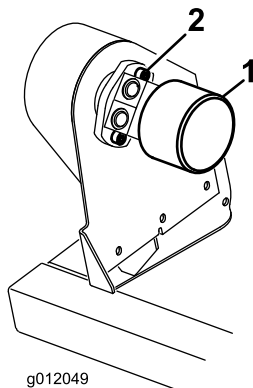

Figure 24
- Loosen socket head screws and nuts securing hydraulic motor to frame sideplate (Figure 24).
- Rotate motor until desired chain tension is attained, then tighten nuts (Figure 24).